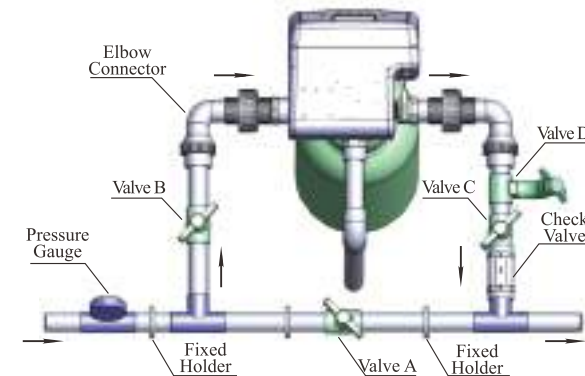

Figure 1-2
- a. As Figure 1-2 shows, install a pressure gauge in water inlet.